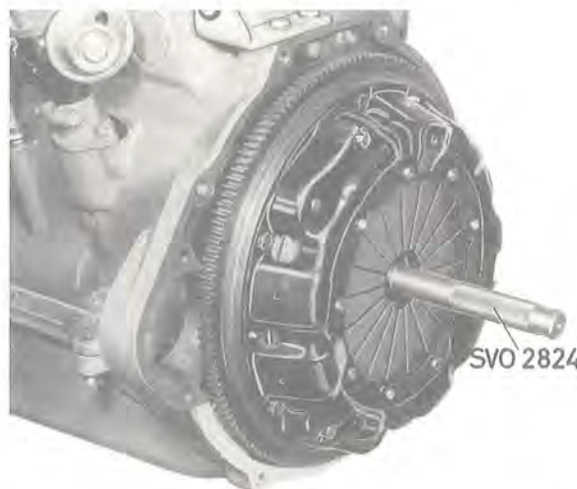

Fig. 4-8. Fitting the clutch
1. Set up the clutch plate (the longest side of the hub facing backwards) together with the clutch against the flywheel and insert the centering mandrel SVO 2824 so that the guide journal on this centres the pilot bearing in the flywheel, see Fig. 4-8.